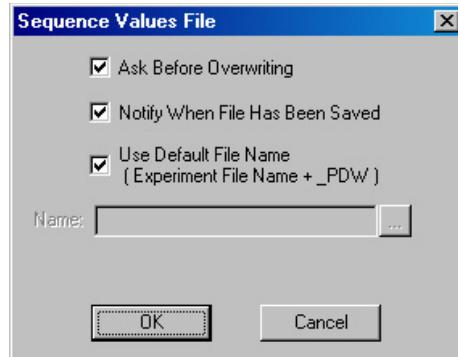

Figure 193. Sequence Values File dialog
**Setup File:** Opens the Sequence Values File dialog (Figure 193), which enables the following: